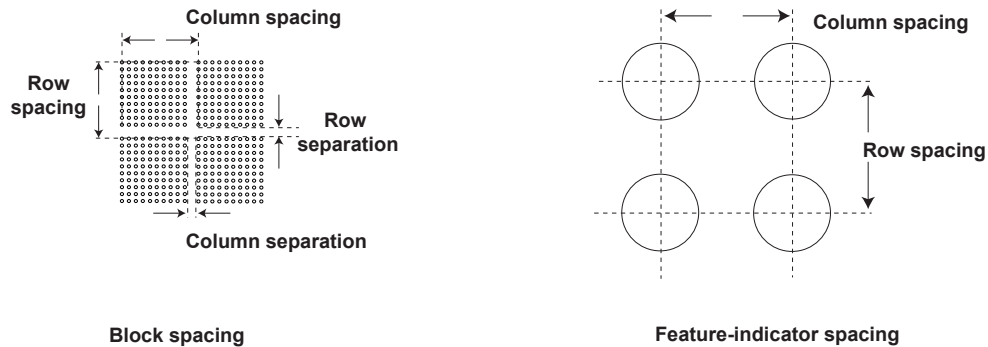

Figure 3: block and feature-indicator spacing
- To determine the position of the blocks, specify the distance between them (see Figure 3). If you do not have these distances from your array manufacturer or spotter, you can measure these distances directly from the array image using the X and Y coordinates reported in the Feature Viewer.
- Specify the layout of the individual feature-indicators in each block (see Figure 3).